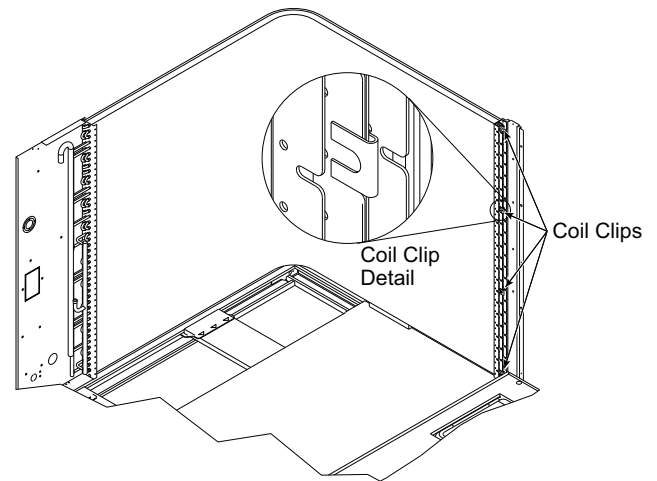

Fig. 17 — Condenser Coil Clips
5. Remove the screws from both sides of the 4 coil retaining clips on the hairpin end of the coil tube sheets. (See Fig. 17.)